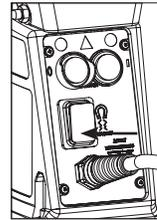

Figure 12
3. Move magnet switch to "OFF" position when ready to release magnetic base from work surface. **(Figure 12)**